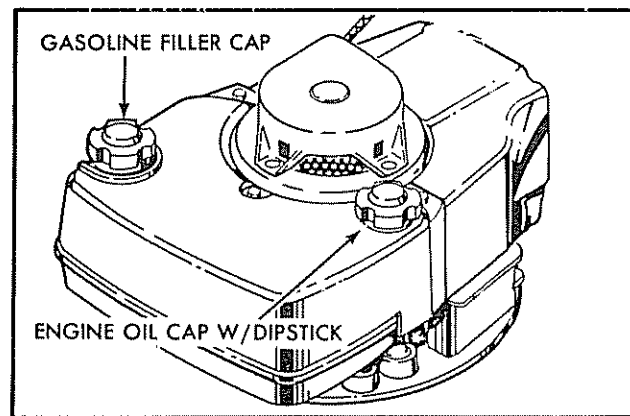

FIG. 11
1. Remove engine oil cap with dipstick and fill to the "FULL" line on the dipstick, using about 1 pint or 0.5 liters of Sears 10W30 oil or equivalent. SAE 30 oil can also be used (See Fig. 11). **DO NOT** use SAE 10W40 oil.
4. Fill the gasoline tank with about one and one half (1 1/2) quarts of fresh, clean unleaded automotive gasoline. Regular leaded gasoline can also be used (See Fig. 11).